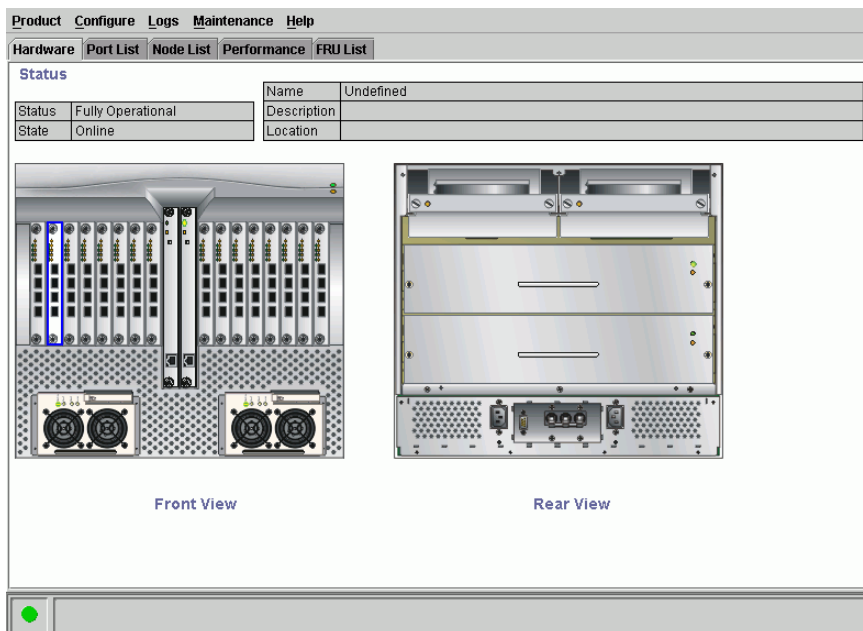

Figure 40 Hardware View page
3. Check director status at the Hardware View page (Figure 40), and complete one of the following steps: